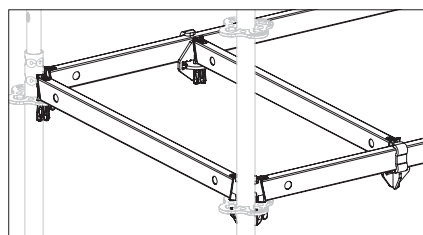
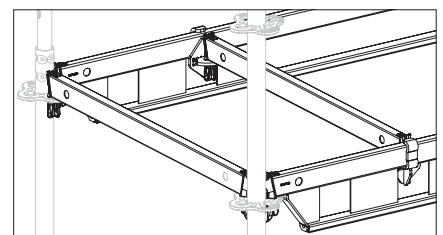

Fig. A11.06a
Fig. A11.06b
- The Ledger-to-Ledger Coupler UHA (**93**) can be installed on the Horizontal Ledgers UH (Fig. A11.06a) and on the reinforced Horizontal Ledgers UHV (Fig. A11.06b).